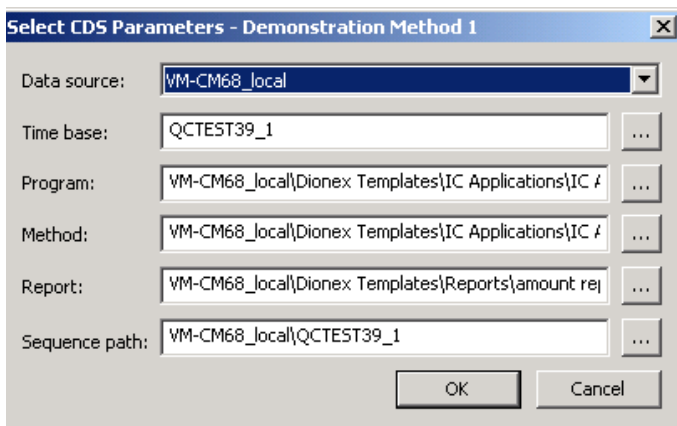

Figure 6: Select CDS Parameters
- If no path or sequence is currently selected (only the data source is selected), the path specified in the Select CDS Parameters window (see Figure 6) will be used.